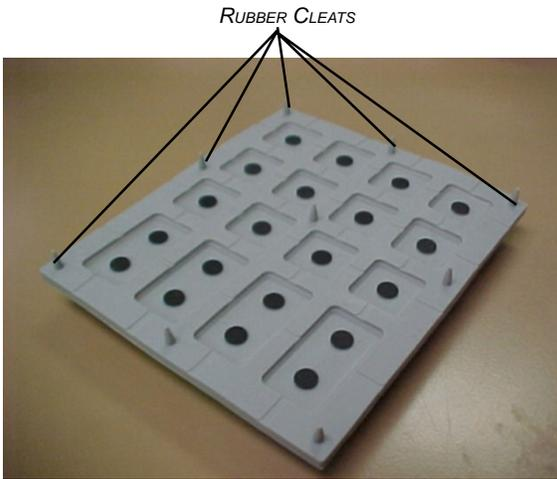
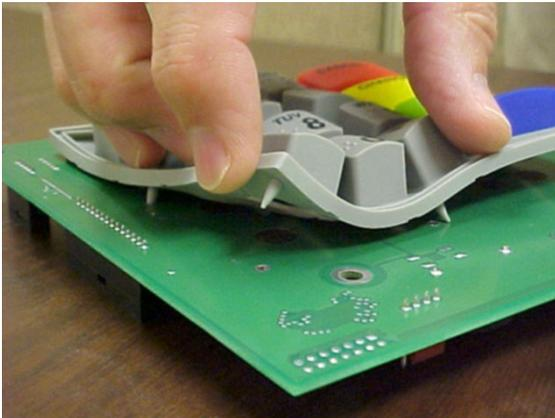
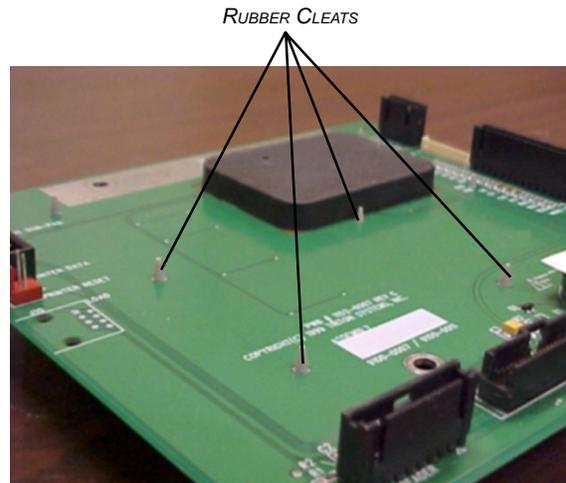

FIGURE 3a. RUBBER KEYPAD CLEATS.
FIGURE 3c. ALIGNING CLEATS WITH HOLES IN SPED BOARD.
FIGURE 3d. CLEATS PULLED THROUGH SPED BOARD.
- 5. Place the Rubber Keypad on the replacement board, ensuring it is oriented correctly (see Figures 3a and 3b), and line up the rubber cleats on the back surface of the keypad with the corresponding holes in the SPED board, as shown in Figure 3c. Pull the rubber cleats through the matching holes in the board, as shown in Figure 3d, ensuring the keypad is flush with the surface of the SPED board.